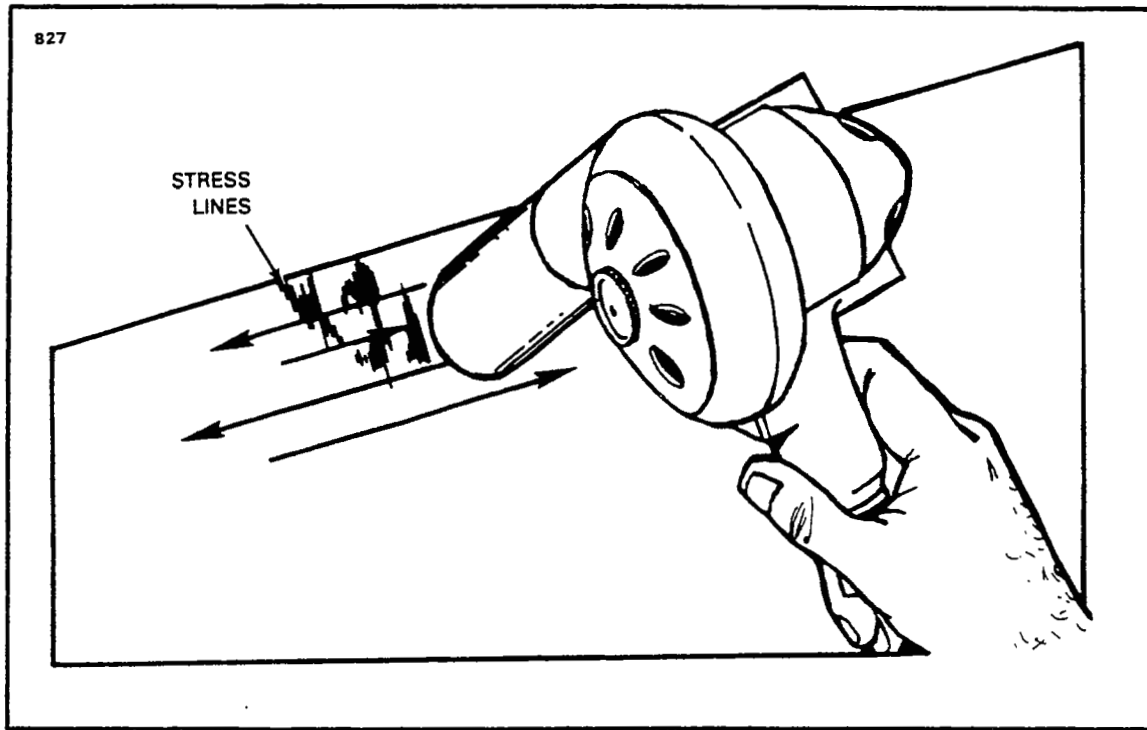
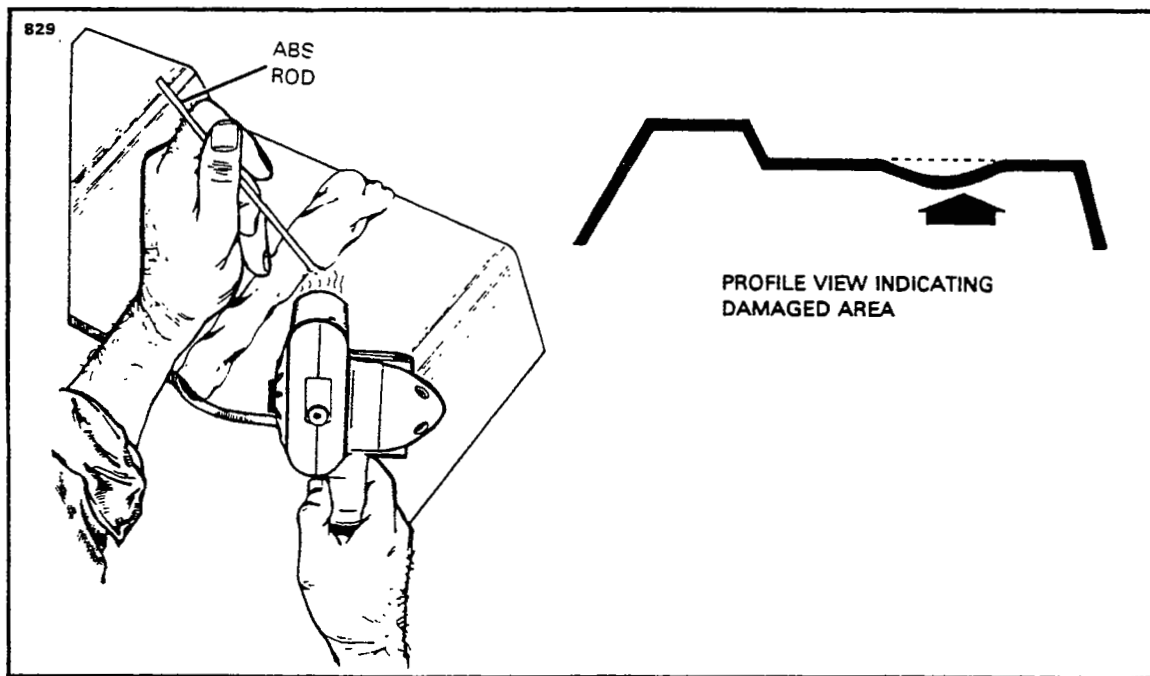
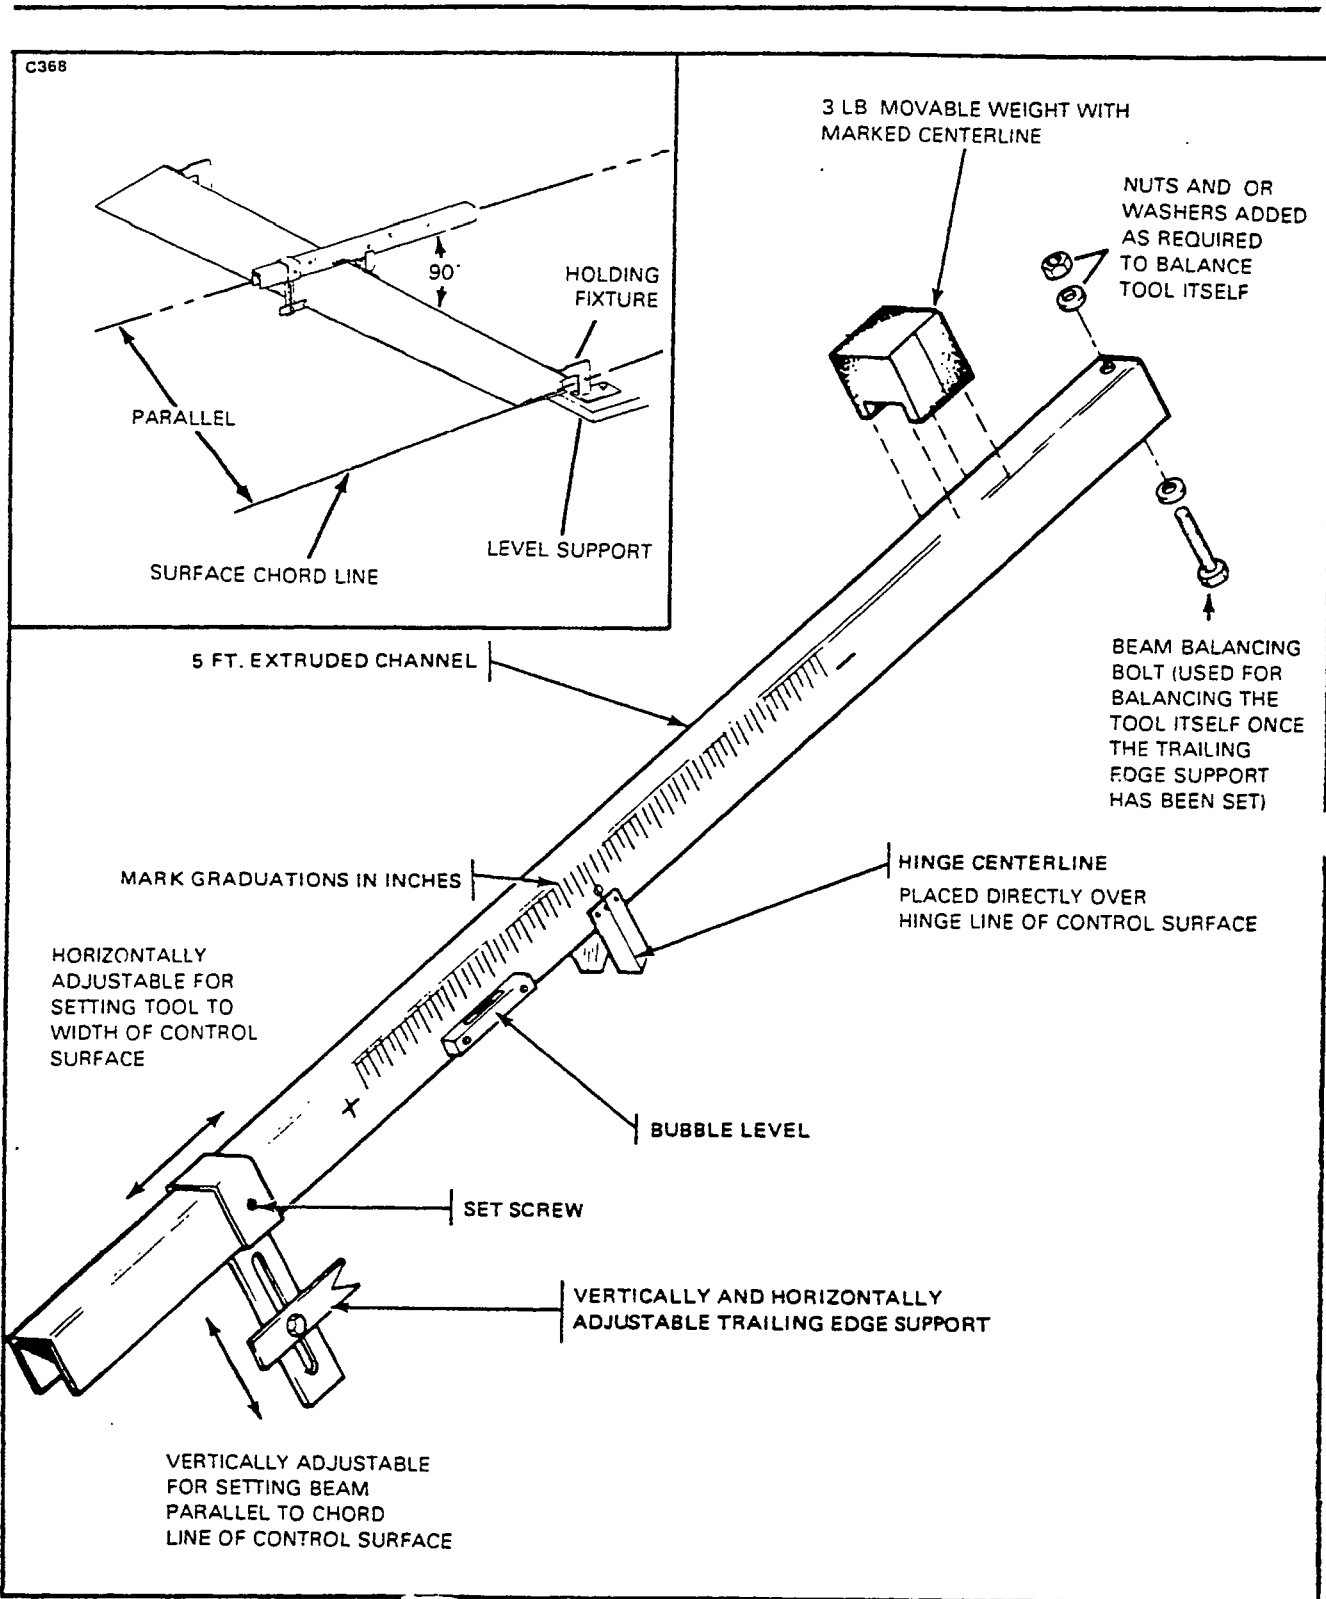

Figure 4-17. Repair of Stress Lines
Figure 4-18. Repair of Impacted Damage
Figure 4-19. Control Surface Balance Tool
- f. Stress Lines: (Refer to Figure 4-17.)
1. Stress lines produce a whitened appearance in a localized area and generally emanate from the severe bending or impacting of the material. (Refer to Figure 4-18.)
4-72 **BALANCING EQUIPMENT** (Refer to Figure 4-19). The balancing must be done using a suitable tool capable of measuring unbalance in inch-pounds from the centerline of the control surface hinge pin. A suggested tool configuration is shown in Figure 4-17. Other tool configurations may be used, provided accuracy is maintained and recalibration capability is provided. The tool shown in Figure 4-17 may be calibrated by placing it on the control surface to be balanced with the balance points over the control surface hinge centerline and the balance bar parallel to the cord line. Position the trailing edge support to align the tool with the control surface cord line and secure in this position. Remove the tool without disturbing the trailing edge support and balance the tool by adding weight to the light end as required. (The movable weight must be at the centerline.) Place the tool on the control surface perpendicular to the hinge centerline as shown in Figures 4-18 and 4-19. Read the scale when the bubble level has been centered by adjustment of the movable weight.